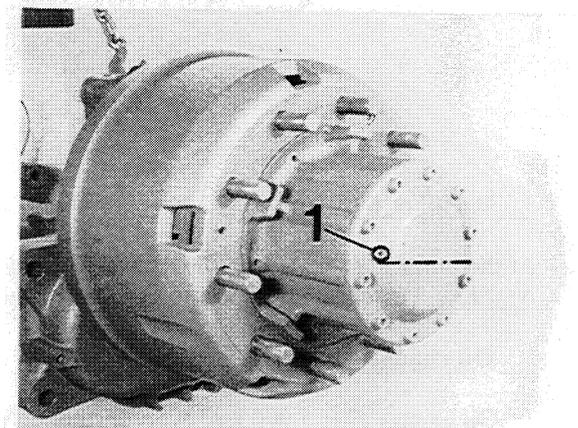

Figure 1
2.1 Oil drain - Hub (Figure 1)
2.2 Oil filling - Hub (Figure 1)